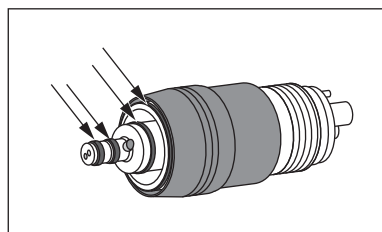

Fig. 15
- 1) Gently remove each O-ring by hand (Fig. 15).